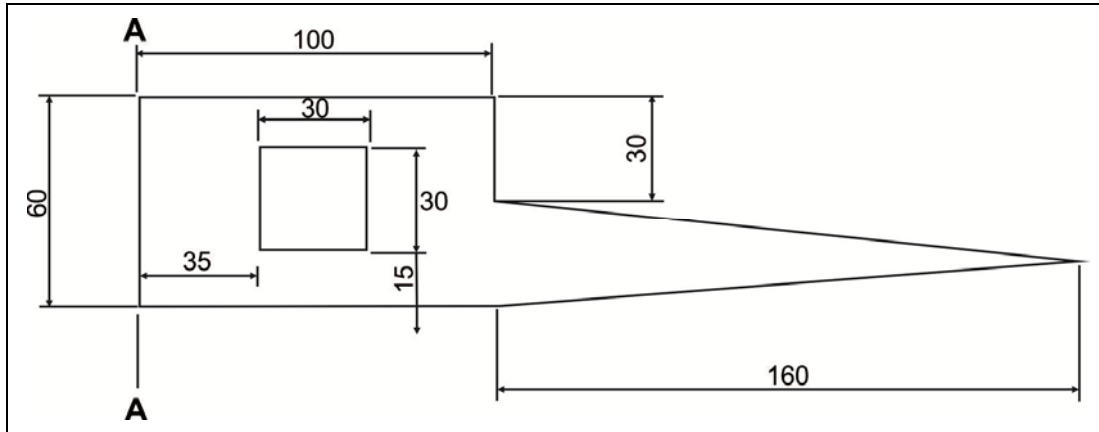

Figure 5.1
- 5.1 FIGURE 5.1 below shows a shaped lamina. Study the lamina below and calculate the position of the centroid from axis AA. All dimensions are in millimetres. Round your answer off to two decimals. (8)